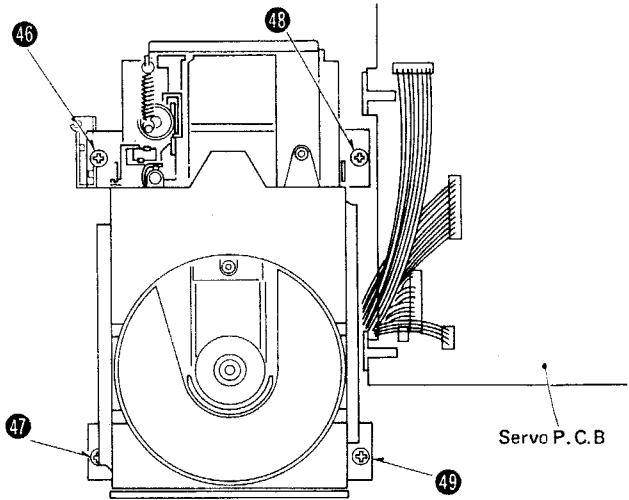

Fig. 15
2. Remove the 4 setscrews [Fig. 15: 46 ~ 49] of traverse unit. Screws 46 ~ 49 are red.
1. Remove the 4 setscrews [Fig. 15: 46 ~ 49] of traverse unit.